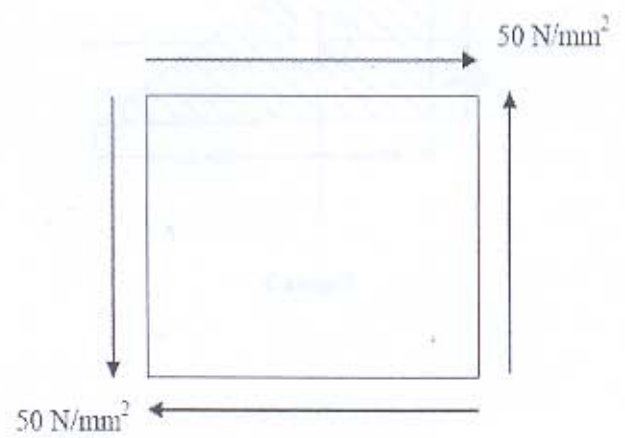

Figure 10
- (c) Define principal plane and state the importance of finding the same. Draw Mohr's stress circle for the element subjected to the stresses as shown in **Figure 10** and find: (i) Major and minor principal stresses (ii) location of principal planes and (iii) maximum shear stress and its location.